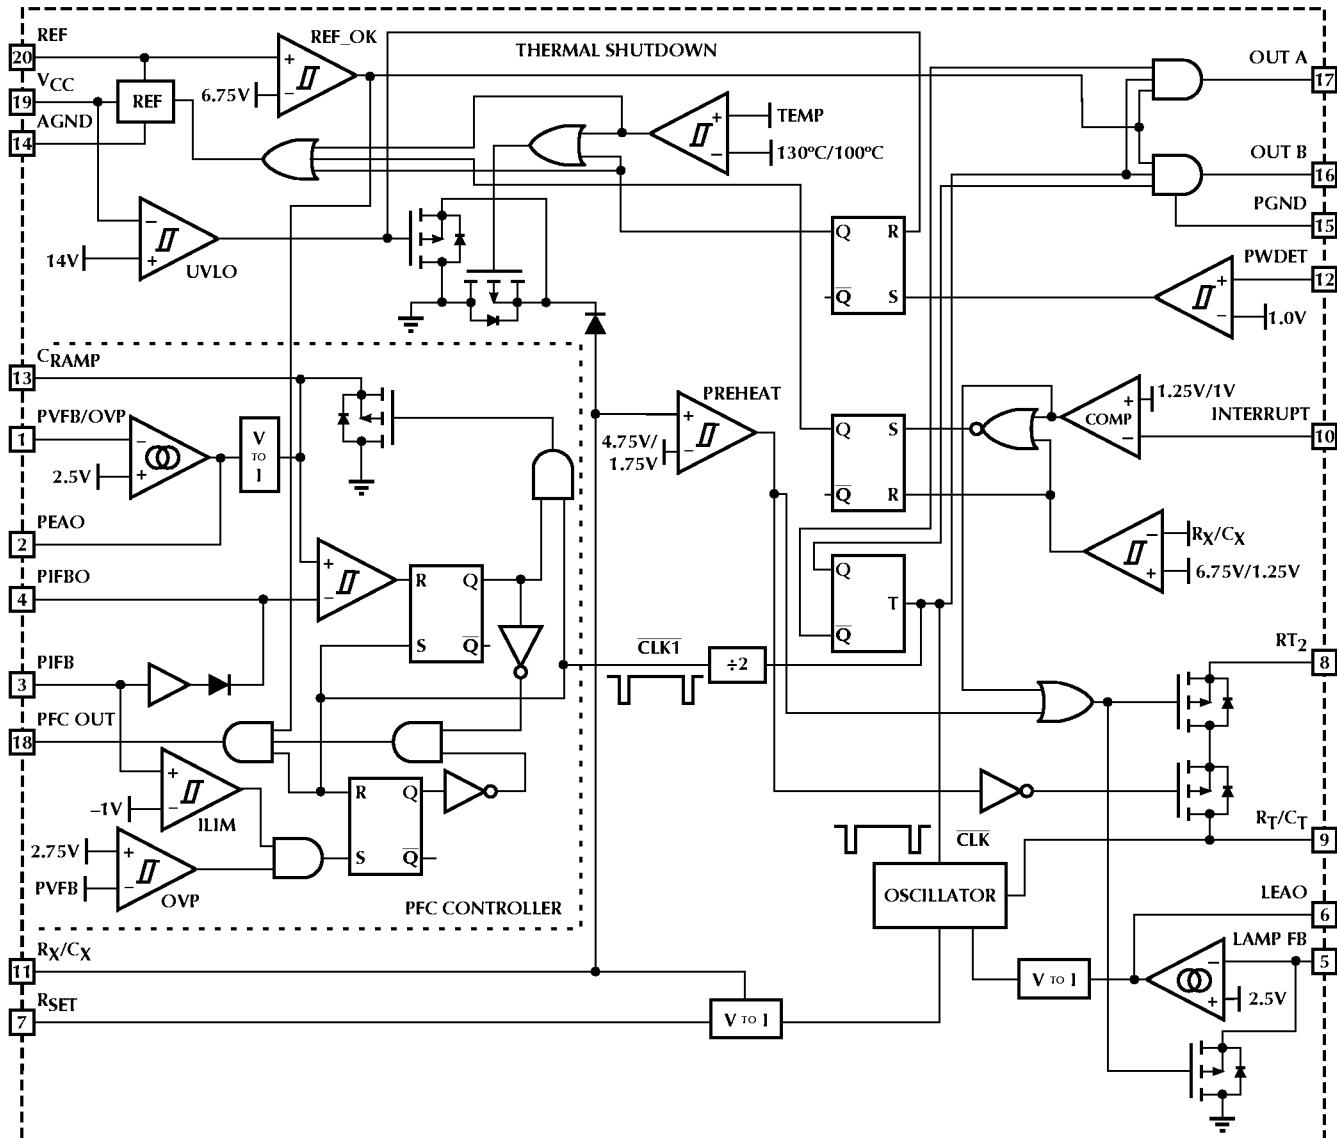

Figure 1. Detailed Block Diagram
The ML4835 consists of peak or average current controlled continuous boost power factor front end section with a flexible ballast control section. Start-up and lamp output timing are controlled by the selection of external timing components, allowing for control of a wide variety of different lamp types. The ballast section controls the lamp power using frequency modulation (FM) with additional programmability provided to adjust the VCO frequency range. This allows for the IC to be used with a variety of different output networks. Figure 1 depicts a detailed block diagram of ML4835.